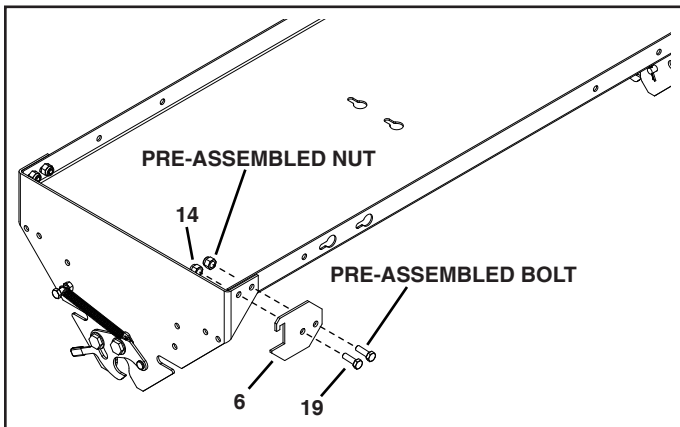

FIGURE 1
1. Rotate the end plates attached to the tray assembly down to a vertical position as shown in figure 1.
2. Remove the bolt and nylock nut from the front right corner of the tray assembly. See figure 1.
3. Attach the lift handle catch (6) to the front holes of the tray assembly using the bolt and nylock nut removed in step 1. See figure 1.
4. Assemble four 5/16 x 3/4" hex bolts (19) and 5/16" nylock nuts (14) to the four empty corners in the tray assembly. See figure 1.